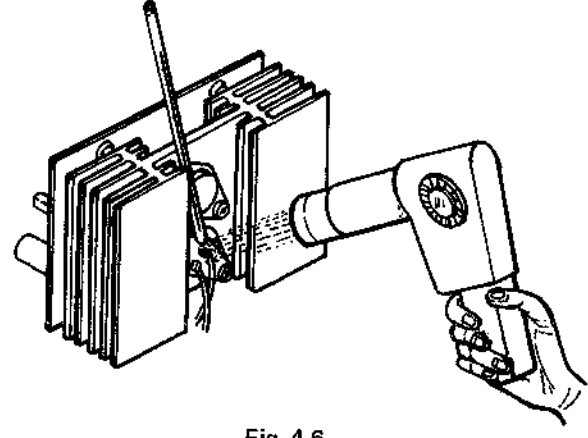

Fig. 4-6
- Step 3: Insert a thermometer between the power transistor and the thermistor. Heat the thermistor and transistor gradually using a heat blower, as shown in Fig. 4-6. A conventional hair dryer is acceptable.